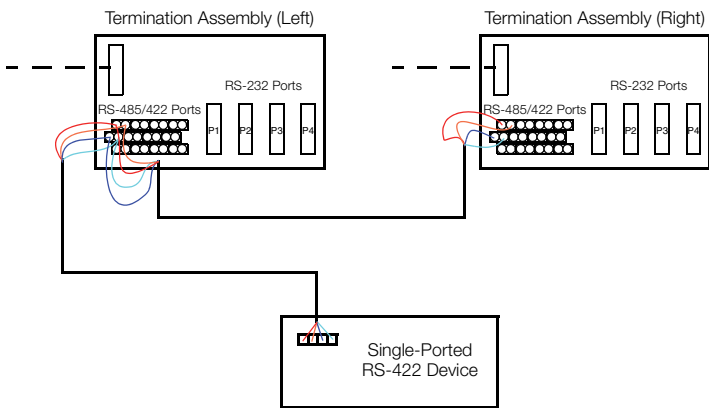

Figure 7. Fault-Tolerant FDC280 to Single-Ported Serial Devices in Typical Configurations
Fault-tolerant FDC280s can connect to Serial field devices via supported termination assemblies as shown in Figure 6 and Figure 7.
- ▶ Offers unique, patented, fault-tolerant operation using two control modules for communications over the Foxboro Evo Control Network. The FDC280 always supports redundant communications to the customer-supplied network which connects to the field device. However, if the field device is single-ported, the redundant cabling can only be extended to the switch if the device is Ethernet or the TA if the device is Serial. Refer to Figure 4 and Figure 7.